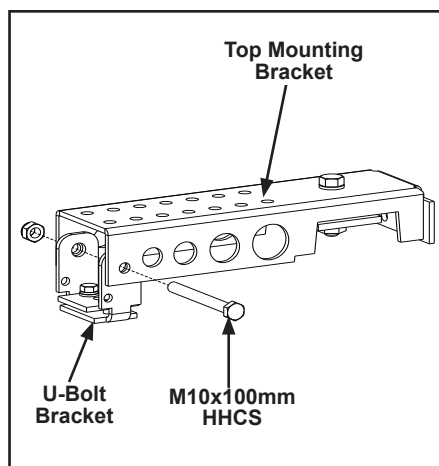

Figure 3-139
- Step 1. Remove the M10 x 100mm HHCS and M10 Nylok from the U-bracket on all TRH2020 hanger assemblies. See Figure 3-139
- Step 6. Lift the TR2000 side rail up to the primary rail and align the U-brackets with the top brackets of the TRH2020. Insert the M10 x 100mm HHCS and M10 Nylok removed in step 1 through the top bracket and U-bracket. **Tighten until bolts are snug + ¼ turn.** Do not over tighten. Over tightening could cause bracket to bend. Repeat for each bracket of TRH2020 as needed. See Figure 3-139.